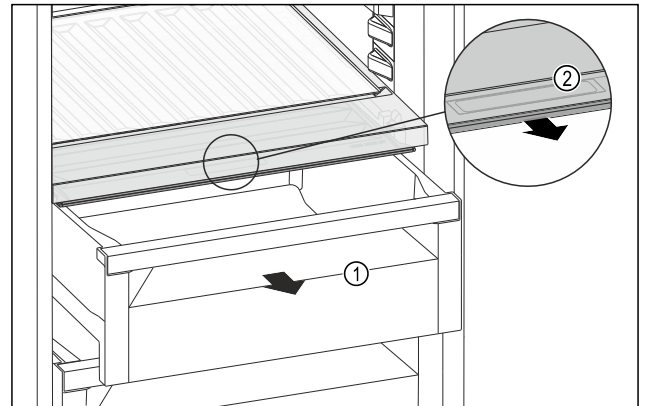

Fig. 158
- ▶ Pull out the drawer Fig. 158 (1).
- ▶ Grasp the recessed grip Fig. 158 (2) on the compartment lid and pull the compartment lid forwards at the same time.